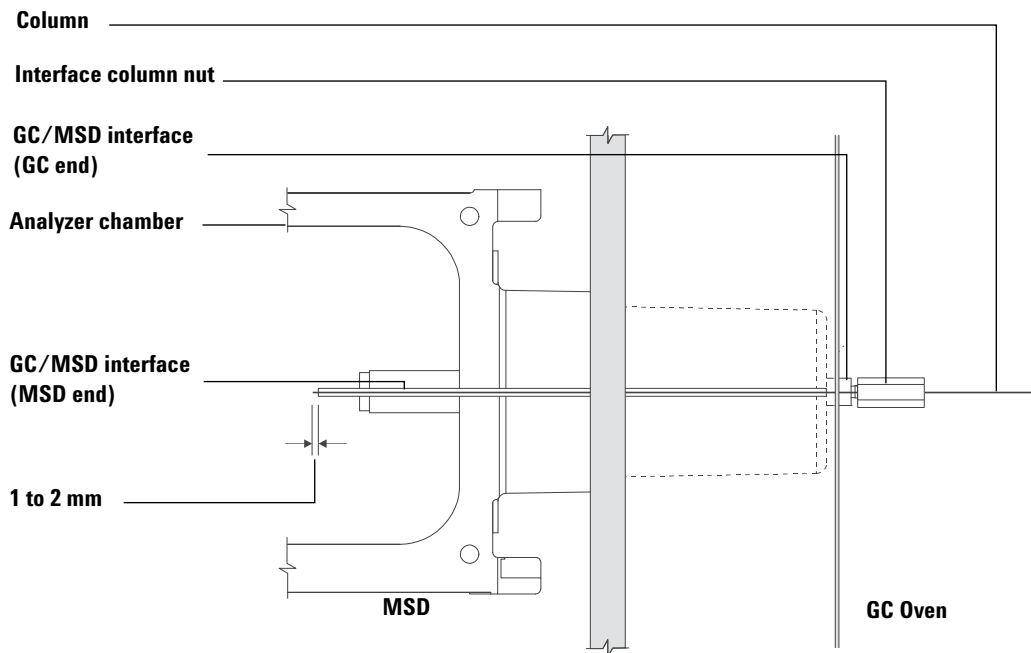

Figure 9 Installing a capillary column in the GC/MSD interface
- 5** Slide the column into the GC/MSD interface (Figure 9) until you can pull it out through the analyzer chamber.